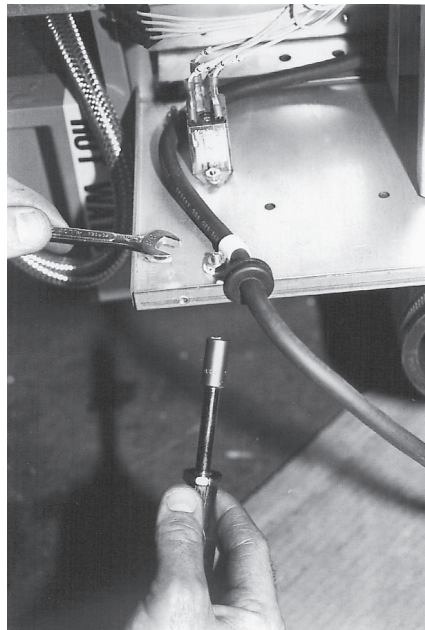

Fig. 74
6. With a $\frac{7}{16}$ " socket, and/or open end wrench remove (2) bolts and hardware securing the power supply box to cooker. (Fig. 74)